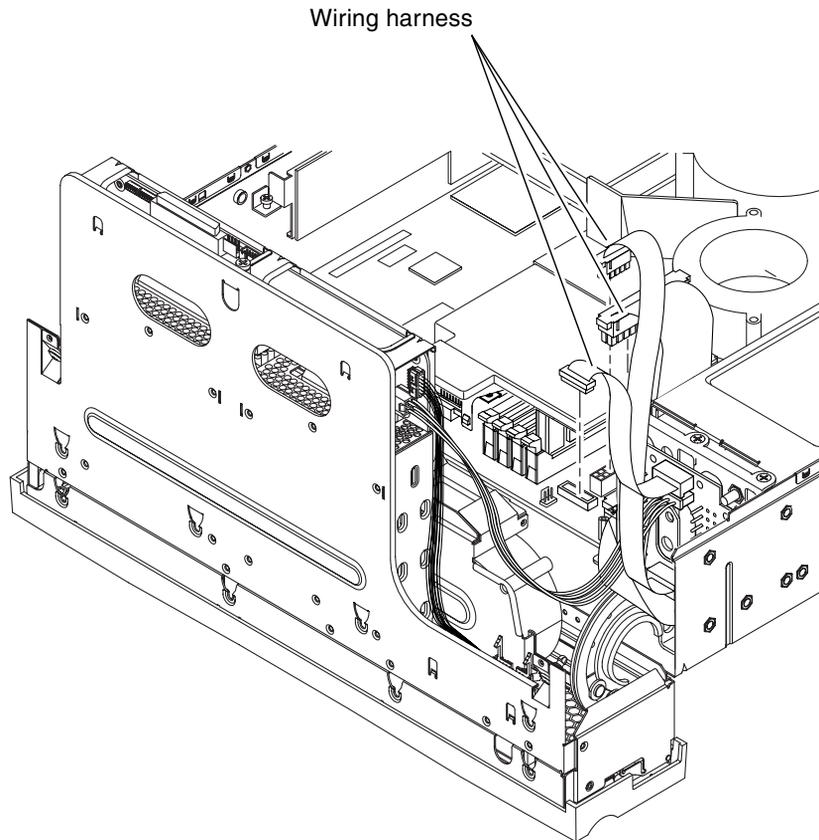

FIGURE 5-12 Disconnecting the PDB Wiring Harness From the System Board
9. Disconnect the PDB wiring harness from the system board (FIGURE 5-12).
See FIGURE 5-12 to locate the wiring harness.